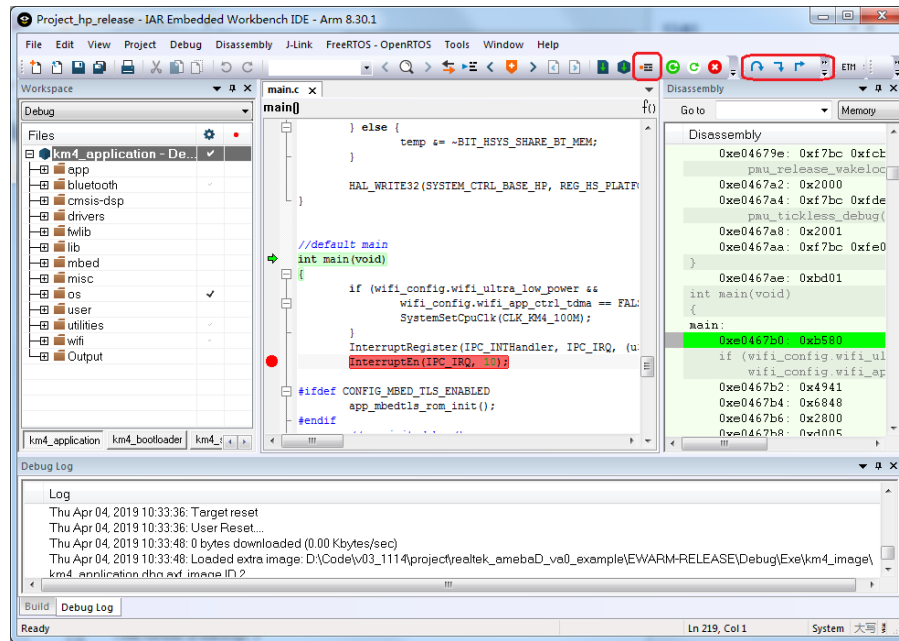

Fig 6-21 Toggle breakpoint
- (4) Toggles a breakpoint at the statement or instruction that contains or is located near the cursor in the source window. The “Toggle Breakpoint” button is on the debug toolbar, as Fig 6-21 shows.
- (5) You can trace code step by step with “Step Into”, or “Go” until triggering a breakpoint. These function buttons are available on toolbar.